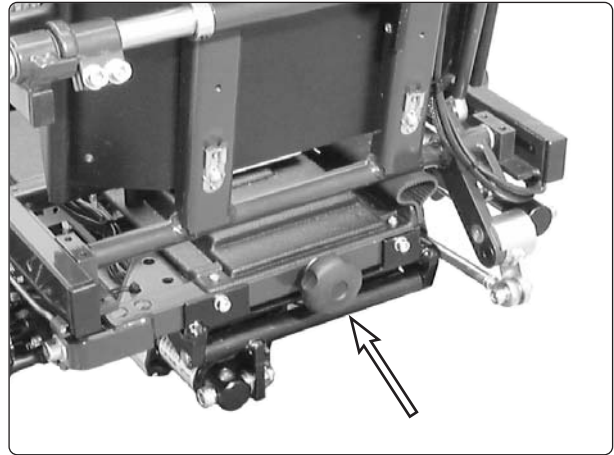

Fig. 43. Setting the layout of the knee stops.
1. Adjust the knee stops for the sitting position to a location approx. 1.5" in front of the leg. The adjustment is made by using the knob located on the rear edge of the seat's frame, see Fig. 43.